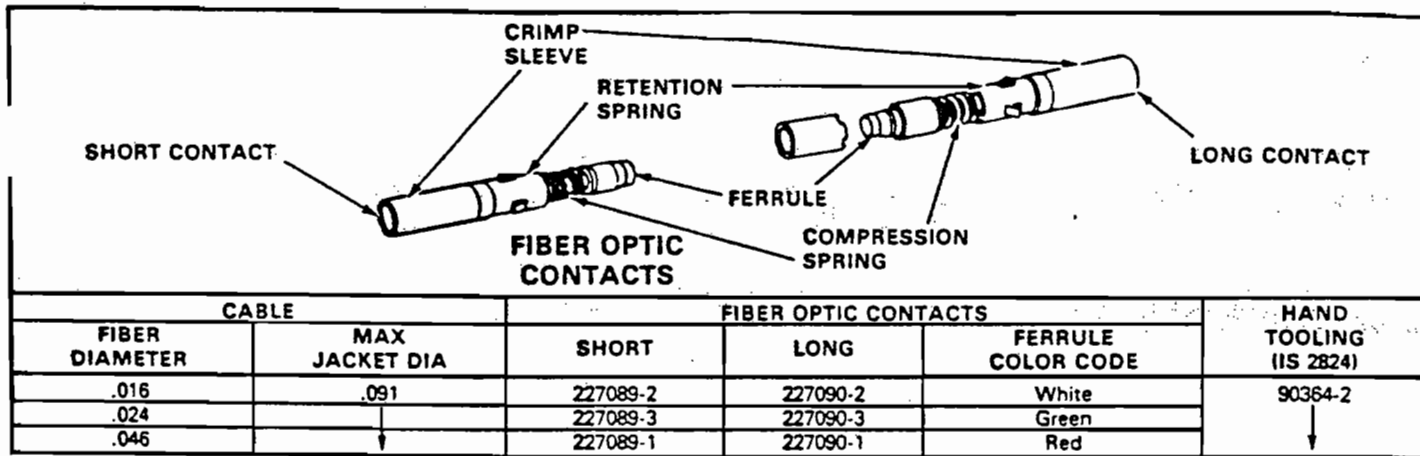

Fig. 6
Fiber Optic — short and long contacts from Figure 6.
3. Columns 2 through 9 indicate appropriate strip-form and loose-piece (LP) pin and socket contacts for selected cable size. Check that these contact part numbers correspond with those on package or reel.
F. Fiber Optic (Figure 6)